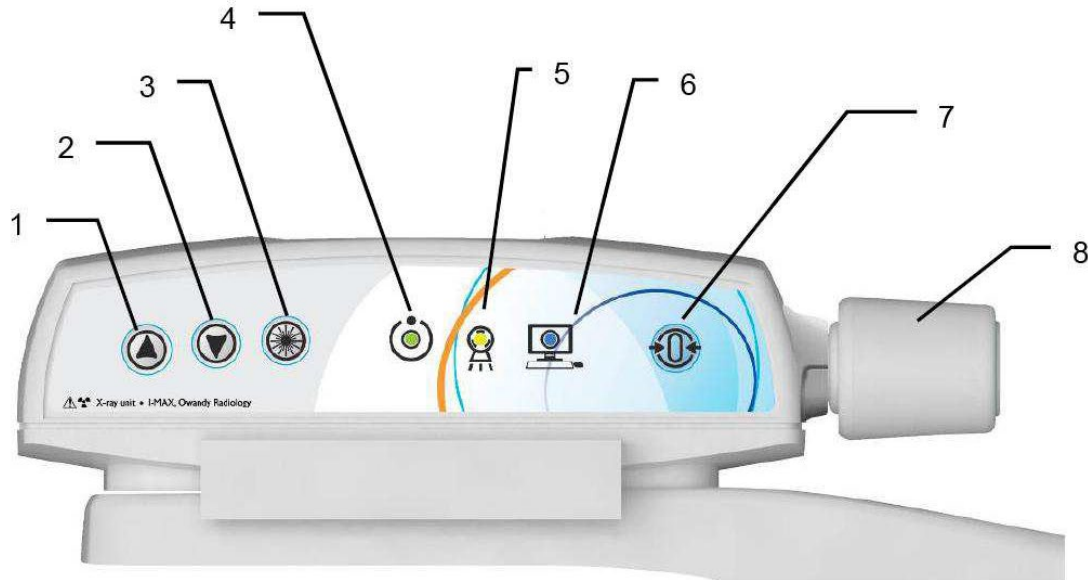

Figure 18 - Keyboard
When the "CHECK" function is complete, the green LED (3 - Figure 18) on the equipment keyboard starts blinking.
2. Run the "GUI" on the PC and wait for the connection between the PC and the equipment; this status is indicated by the blue LED on the equipment (5 - Figure 18) and on the GUI lighting up.
4. Press the button ">O<" on the keyboard to run the chin rest automatic positioning accordingly with the current exam selection. The white LED (8 - Figure 18) will starts blinking (system waiting for a user's input).
Ready for X-ray status is signalled by the green LED on the equipment (3 - Figure 18) and on the GUI lighting up.
Figure 18 shows a general view of I-Max 3D control Interface.
Ready for X-ray status is signalled by the green LED on the equipment (3 - Figure 18) and on the GUI lighting up. Ready for X-ray status remains as long as the equipment is in the start exam position and the GUI is connected to the equipment.
I-Max 3D assumes that the digital sensor is ready: if this is not the case, the blue light indicator of "Computer connection" status (5 - Figure 18) start blinking slowly. Refer to the Digital Acquisition System Manual to correct the situation. To reset the message on I-Max 3D, press "OK" on the GUI and follow the instruction provided (if on the equipment keyboard the green light indicator of "Machine Ready" status is blinking, press >0< to perform the axis reset).